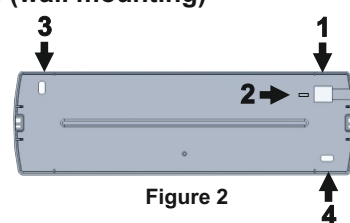

Figure 2
2. Pass the mains cables through the hole (point 1 in figure 2). Use the supplied tie to anchor the cable to the cable bracket (point 2 in figure 2)
3. Mount the base plastic on the wall using the included mounting accessories in points 3 and 4 as shown on figure 2.